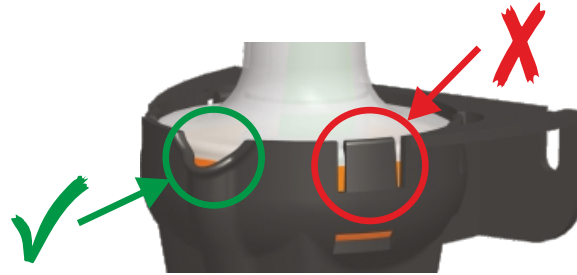

Fig 6: Correct Recess for the Lanyard in the Holder Bracket
**WARNING:** Ensure that the lanyard is placed in recess (Fig 1 & Fig 6). Any other way of installation might affect the proper release of the lifebuoy light. Refer to Part 4 - Inspection Process for proper installation.
Ensure that the lanyard is placed in recess. Any other way of installation might affect the proper release of the lifebuoy light (Fig 6). Periodical operational testing must last only a few seconds to avoid consuming of the battery voltage.